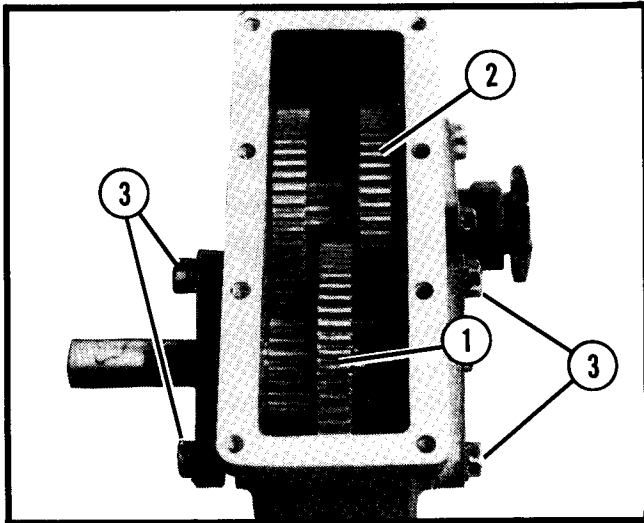

Figure 30. Transmission 8710 And Earlier
4. Remove bearing cap screws from both sides(See Figure 30).
7. Remove bearing cap screws from both sides(See Figure 30).